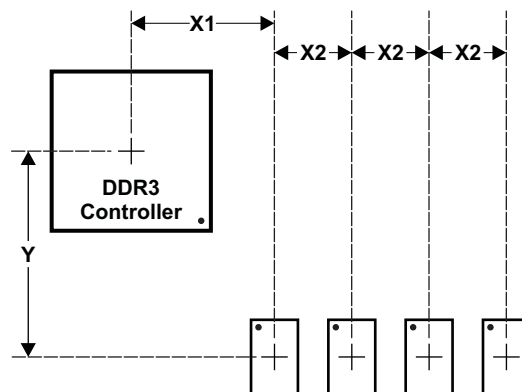
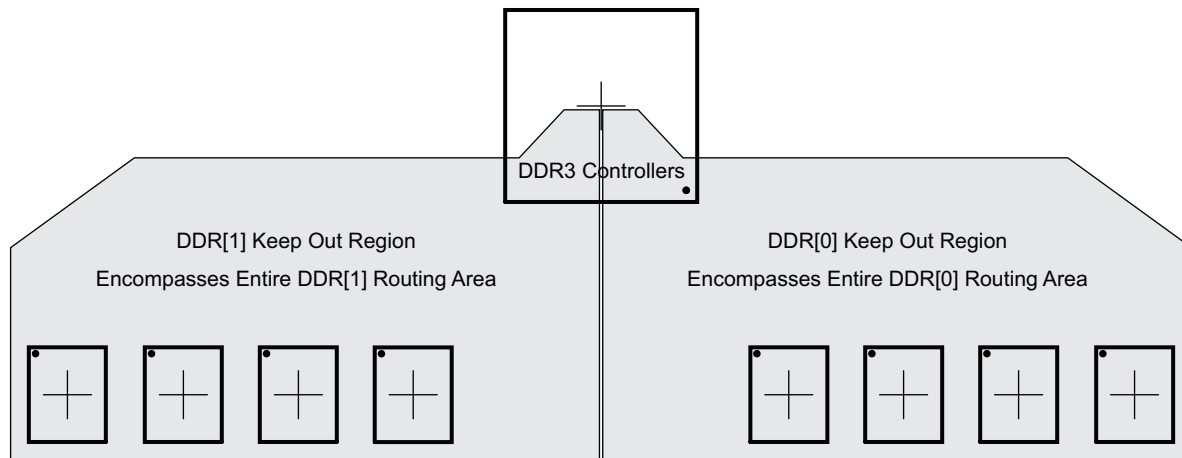

Figure 8-56. Placement Specifications
Figure 8-57. DDR3 Keepout Region
Figure 8-56 shows the required placement for the processor as well as the DDR3 devices. The dimensions for this figure are defined in Table 8-63. The placement does not restrict the side of the PCB on which the devices are mounted. The ultimate purpose of the placement is to limit the maximum trace lengths and allow for proper routing space. For a 16-bit DDR memory system, the high-word DDR3 device(s) are omitted from the placement.
- (1) For dimension definitions, see Figure 8-56.
- (2) Measurements from center of processor to center of DDR3 device.
- (3) Minimizing X1 and Y improves timing margins.
- (4) w is defined as the signal trace width.
- (5) Non-DDR3 signals allowed within DDR3 keepout region provided they are separated from DDR3 routing layers by a ground plane.
- (6) Note that DDR3 signals from one DDR3 controller are considered *non-DDR3* to the other controller. In other words, keep the two DDR3 interfaces separated by this specification.
The region of the PCB used for DDR3 circuitry must be isolated from other signals. The DDR3 keepout region is defined for this purpose and is shown in Figure 8-57. The size of this region varies with the placement and DDR routing. Additional clearances required for the keepout region are shown in Table 8-63. Non-DDR3 signals should not be routed on the DDR signal layers within the DDR3 keepout region. Non-DDR3 signals may be routed in the region, provided they are routed on layers separated from the DDR signal layers by a ground layer. No breaks should be allowed in the reference ground layers in this region. In addition, the 1.5-V DDR3 power plane should cover the entire keepout region. Also note that the two DDR3 controller's signals should be separated from each other by the specification in Table 8-63, item 5.